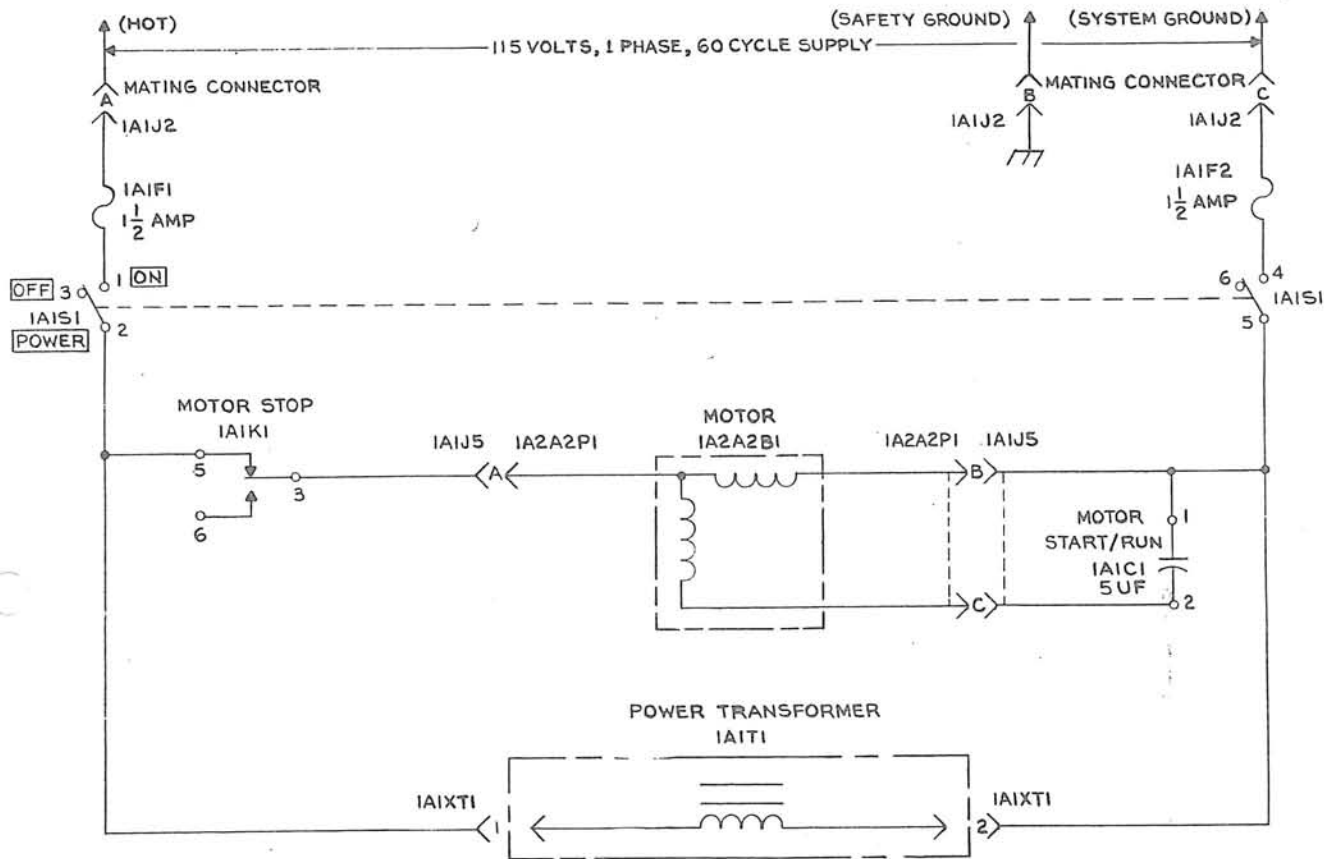

Figure 5-12. Alternating Current Primary Power Distribution, Simplified Diagram
(3) SYSTEM TROUBLE SHOOTING PROCEDURE. - Table 5-12 provides the trouble shooting procedure for isolating the particular functional section (send, receive, or power supply and distribution) at fault. Refer to Figure 5-12 for the primary power distribution diagram. Refer to Section 5 for overall wiring, schematic, and block diagrams; for removal, disassembly, adjustment, or reassembly procedures; and for parts location information.
| 1. Both motor and copy lights inoperative | Prior to using this chart, perform the test setup of Paragraph 5-4a(2) | Replace fuse or fuses. Replace switch. Perform continuity check using Figure 5-12 and Multimeter AN/PSM-4 or equivalent. Replace or solder broken or shorted wire. |